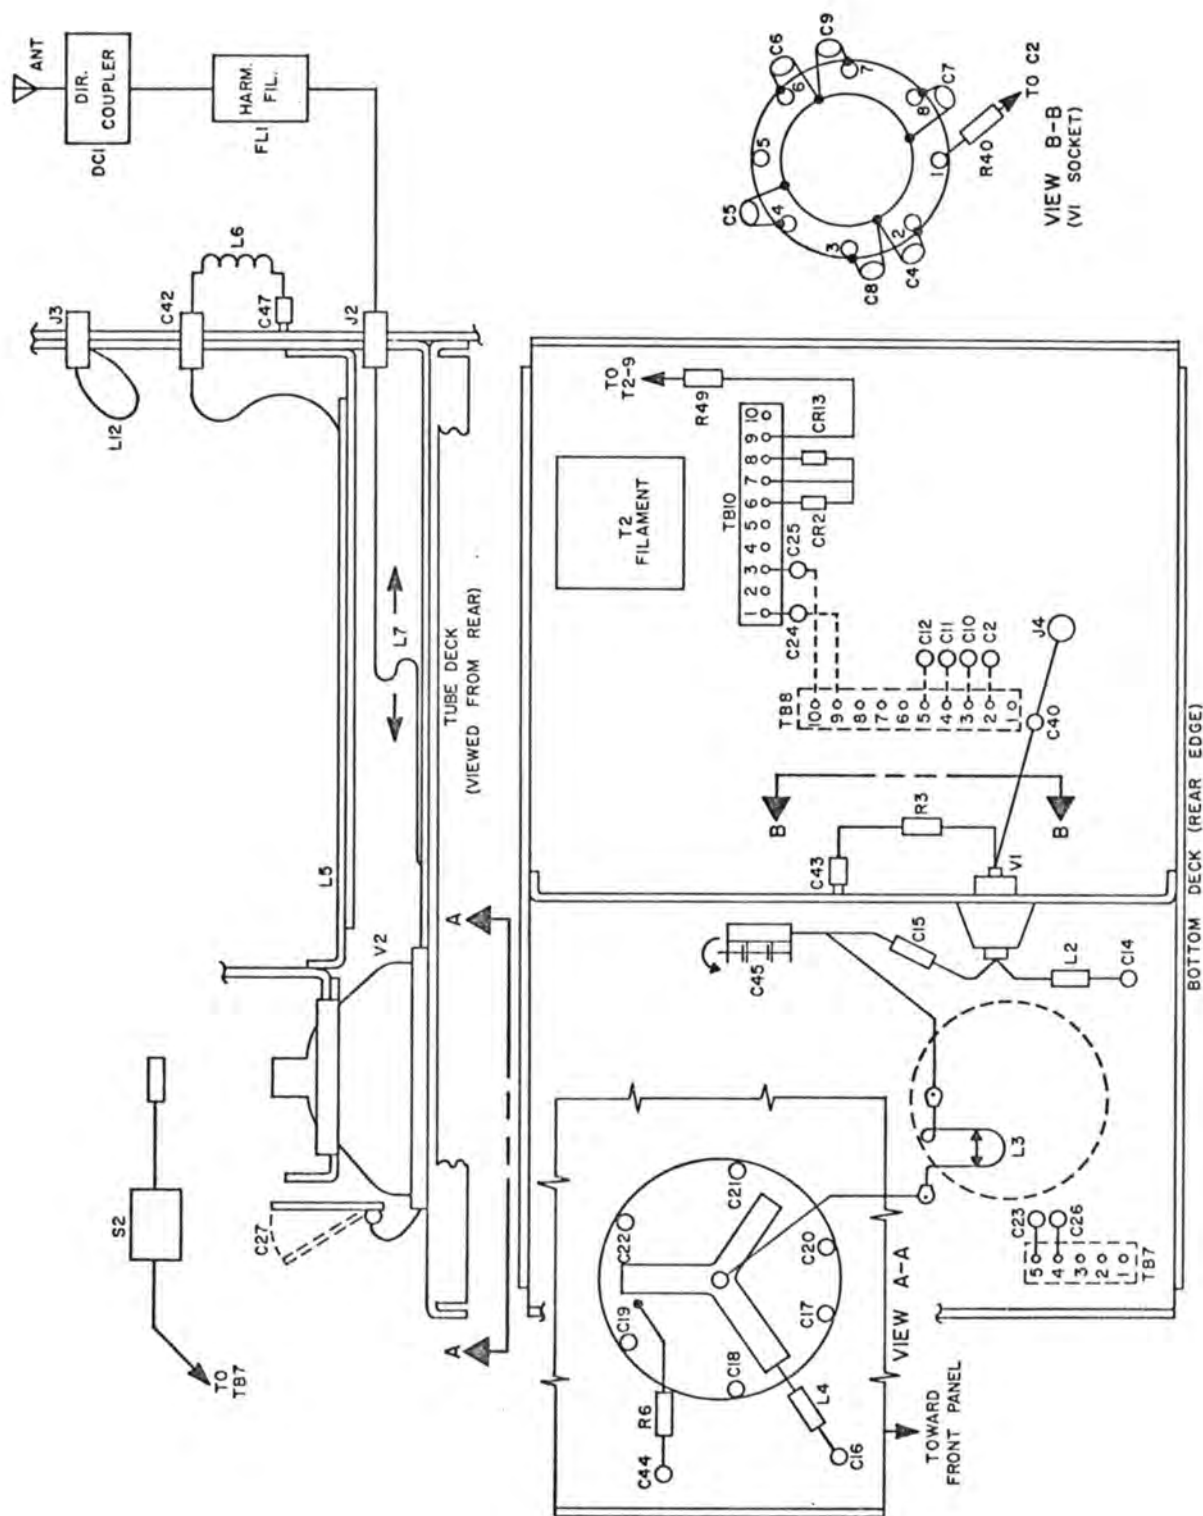

Figure 6-9. RF Amplifier Cavity Assembly
- d. Connect ac voltmeter leads across filament terminals on V2 tube socket. (See figure 6-9.)